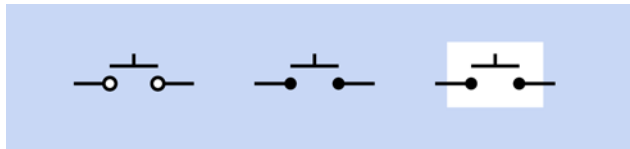

Figure 2-46 Three variants of the pushbutton symbol. The white rectangle is added in this book for clarity, but is not used elsewhere.
5. Pushbutton. Three possible pushbutton symbols are shown in Figure 2-46. These symbols represent the most common type of normally open pushbutton or momentary switch, where pressure closes two contacts and release of the pressure opens the circuit. In more complex pushbuttons, where a single button press closes or opens numerous contacts, the symbol for a multi-pole switch may be used.